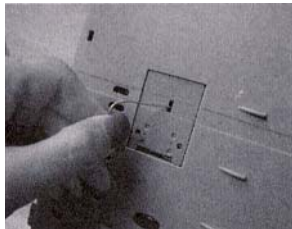

Figure 4
3. If there is dust build up in the printer slots then remove the print cartridges and clean slots with an unfolded paperclip and tissue (Fig. 4).